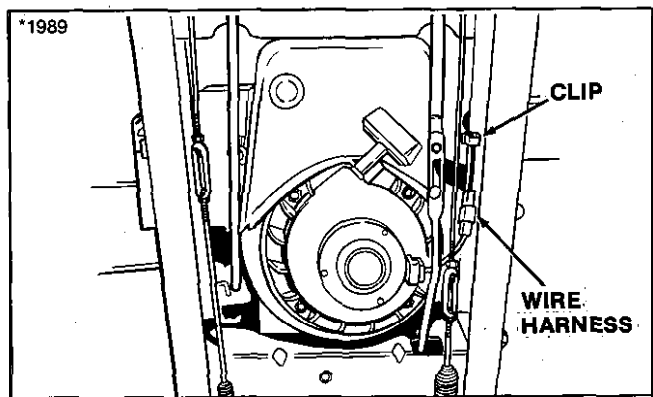

Figure 5.
4. Install clip on upright as shown in figure 5 to prevent wire from interfering with recoil starter. Plastic ties provided with kit will not be used.
3. Install clip on upright as shown in figure 5. Plastic ties provided with the kit will not be used.